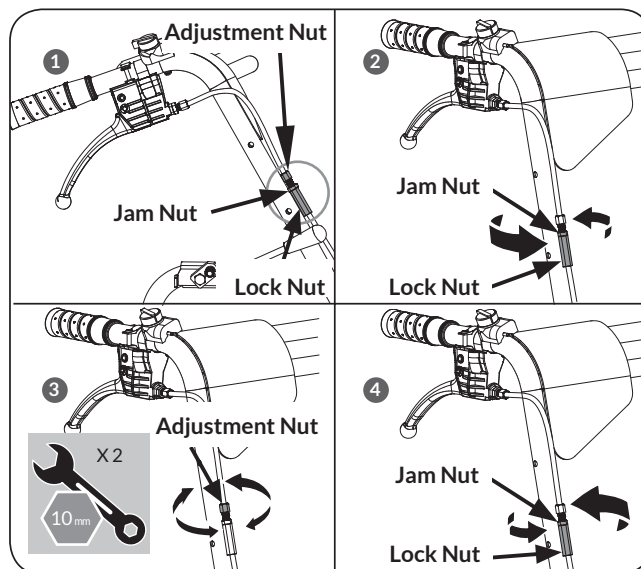

Figure 8a
1. Loosen the jam nut by turning it counter clockwise with 10mm wrench while holding the lock nut in place with 10mm wrench. (See **Figure 8a, Illustration 2**)
2. While holding the lock nut in place with a 10mm wrench, tighten (or loosen) the cable by turning the cable adjustment nut clockwise (or counter clockwise) with a 10mm wrench until you have reached your desired tightness. (See **Figure 8a, Illustration 3**)
3. Once you have reached your desired cable tightness, tighten the jam nut by turning it clockwise until it is tight against the lock nut. (See **Figure 8a, Illustration 4**)